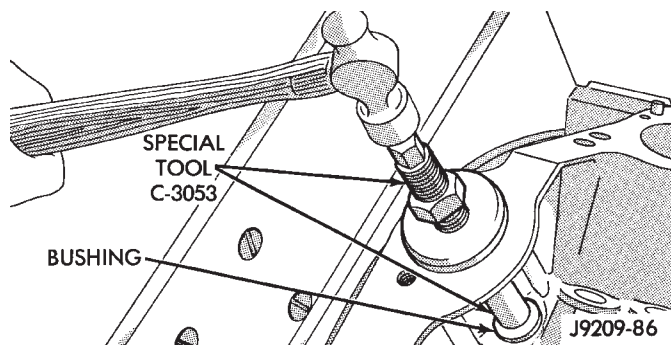

Fig. 35 Distributor Driveshaft Bushing Installation
- (1) Slide new bushing over burnishing end of Distributor Drive Shaft Bushing Driver/Burnisher Tool C-3053. Insert the tool and bushing into the bore.
- (2) Drive bushing and tool into position, using a hammer (Fig. 35).